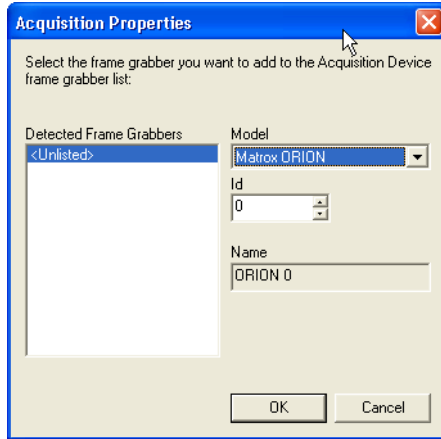

Figure 189 Frame Grabber Selection
- Use the **Add Frame Grabber** button to open the frame grabber dialog shown in Figure 189. The **Detected Frame Grabbers** frame lists the frame grabbers that are installed in the system.
- Click **Add Frame Grabber** to open the frame grabber selection window illustrated in Figure 189.